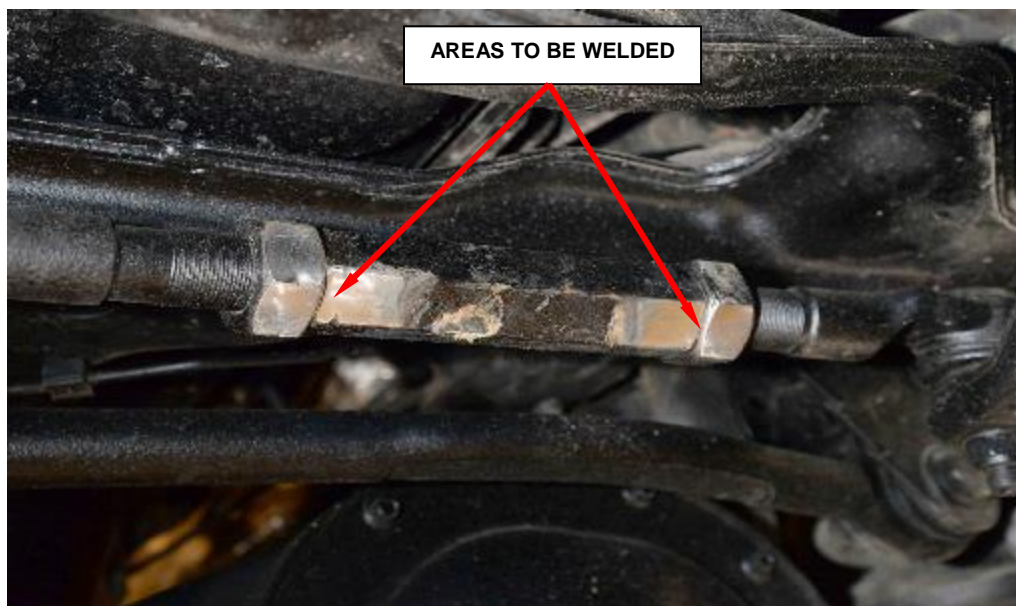

Figure 7 – Clean the Areas to be Welded
5. Clean the areas to be welded. Areas must be free of dirt, oil, water, salt, undercoating, or any signs of moisture then wire brush area to be welded (Figure 7).